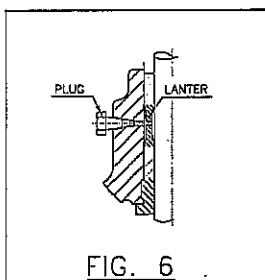

FIG. 6
- *Figure 6* ► it represents a packing case with a lantern and plug.